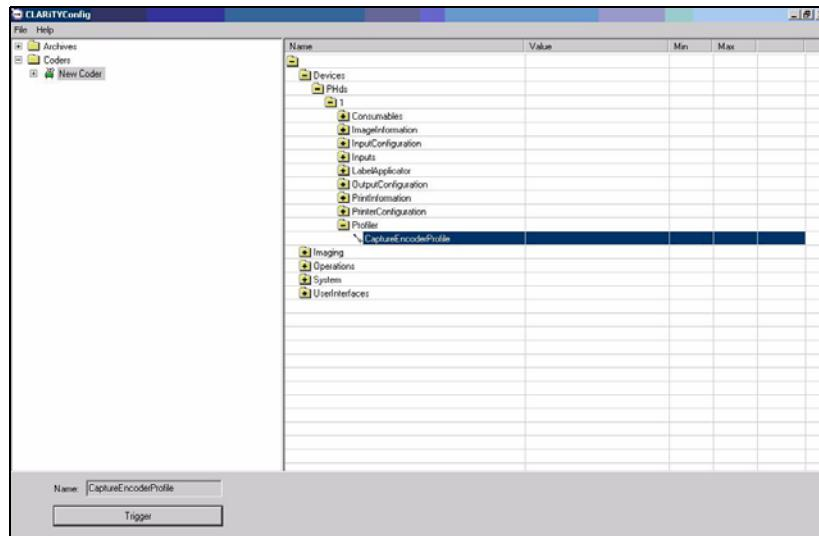

Figure 4-17: Encoder Profiles - CLARiTY® Configuration Settings
- 1 Click on the new coder icon and navigate through devices and select Capture Encoder Profile from the list as shown in Figure 4-17.